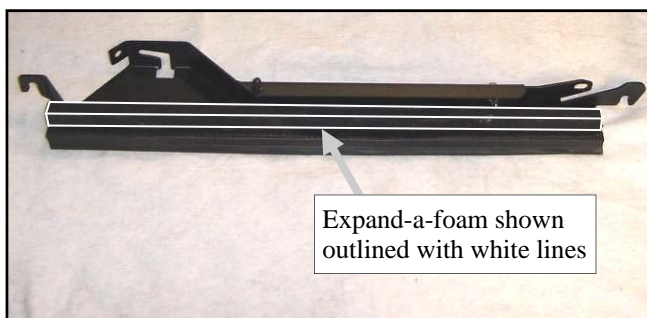

Fig. 1.2 (view of passenger's side top mount)
1.2 Per figures 1.2 and 1.2.1, install the supplied Expand-a foam to the top mount. Note: self-adhesive backed foam is to be applied to clean, dry surfaces at room temperature for best adhesion. Peel back the protective film and attach it from end to end on the painted sheet metal above the factory installed rubber trim as shown. Figures 1.2 and 1.2.1 show white lines that represents the Expand-a-foam for clarity in the photo.